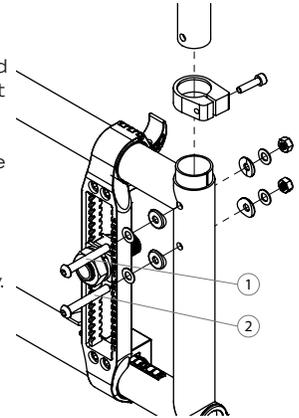

Fig. 8
- Loosen the top bolts (1) (Fig. 8) and (2), which are also used to support the armrest socket (Swing Away and Flip Back armrest).
- Tighten bolts (1) and (2) firmly.
- Wheelchairs equipped with Flip Back armrests; tighten screw (1) while paying special attention to the force needed to flip back the armrest.